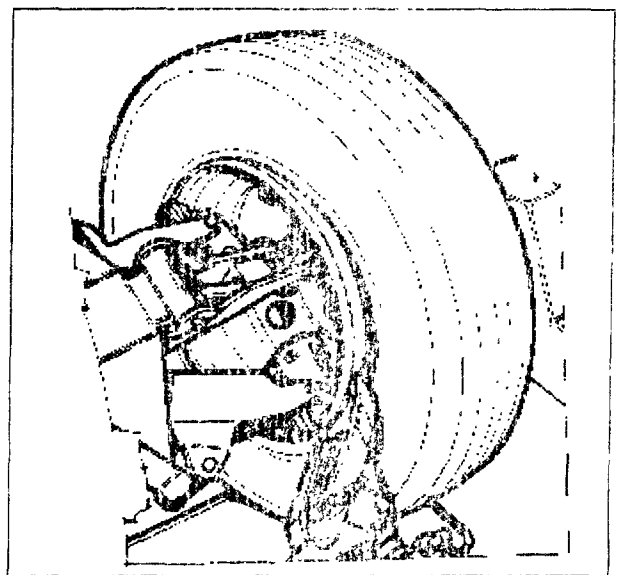

Fig.41
6. When breaking the inner bead be sure not to damage the valve stem (Fig.41).
6. Lift the chuck arm to move the hook tool away from the rim edge (1" or 2-3 cm). Move the tool towards the outside to apply the long tyre bar (Fig.41).